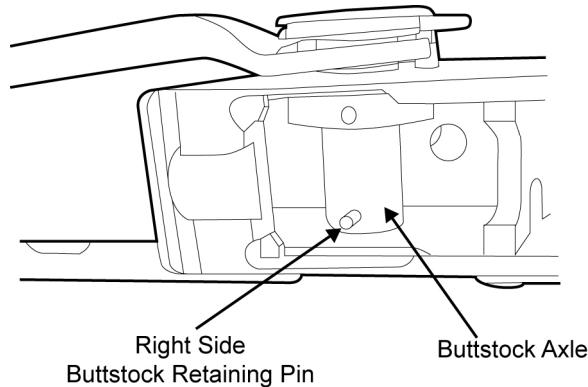

Figure 48. One of the Buttstock Retaining Pins Installed through the Buttstock Axe.
e. Insert the axle pivot the rest of the way into the buttstock axle. The slot in the axle pivot and the pin hole for the right side buttstock retaining pin in the buttstock axle should be aligned. Insert one of the buttstock retaining pin into the right side pin hole in the buttstock axle, ensuring that the pin is threaded through both sides of the buttstock axle. Refer to Figure 48.